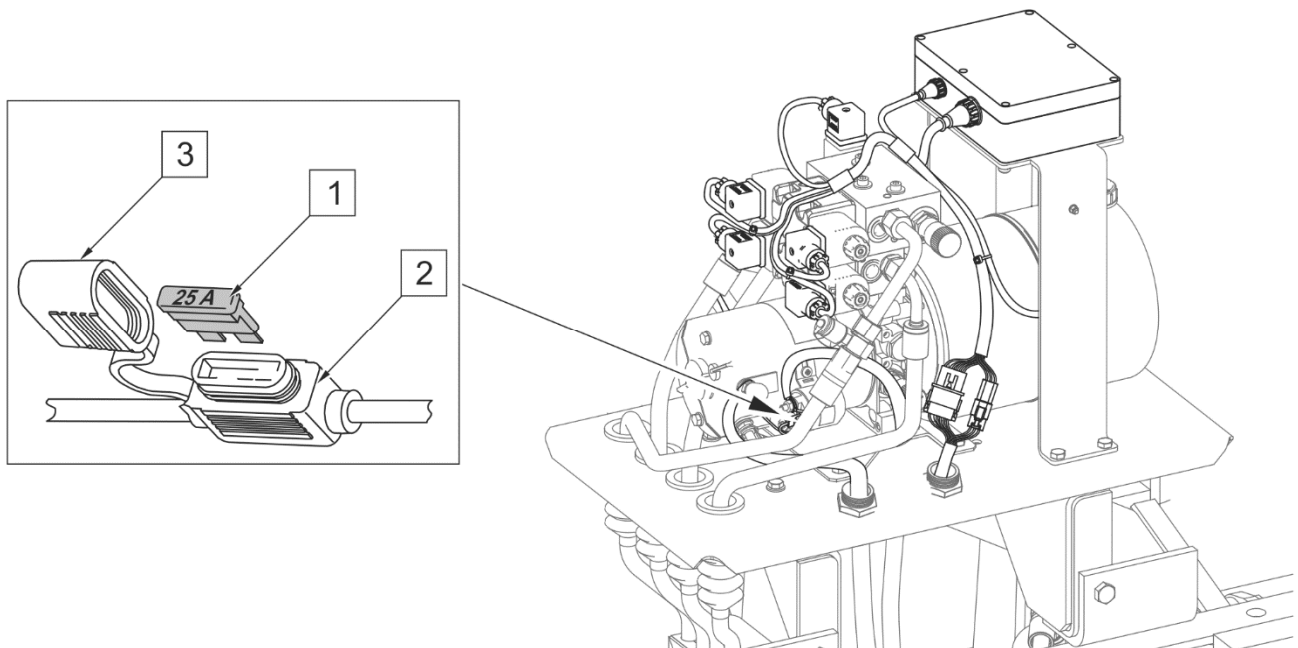

FIGURE 5.8 Replacing the fuse of Power-Pack solenoid valves (option)
(1) - UNIVAL 25A fuse; (2) - fuse holder; (3) - protective cover
To replace the fuse of solenoid valves (FIGURE 5.8), remove the housing of the electro-hydraulic power supply, remove the protective cover (3) and take out the fuse (1) from the housing (2).